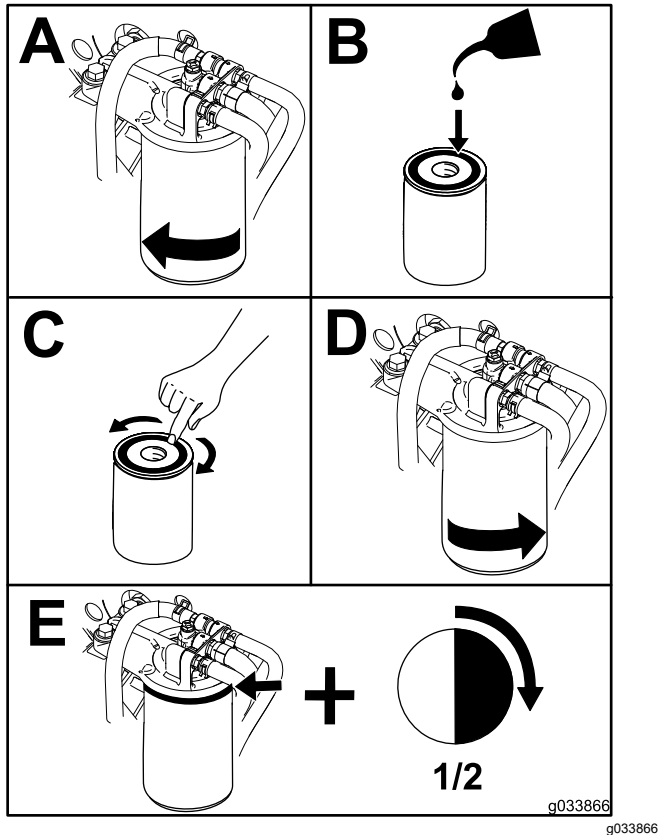

Figure 75
1. Clean the area around the filter head (Figure 75).